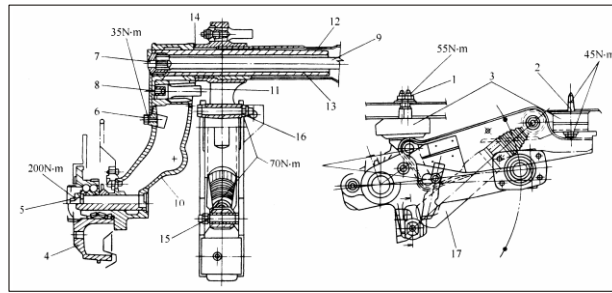

Figure 4-24 Rear Axle and Suspension
(7) As indicated in Figure 4-24, remove the fixing clip of handbrake brake cable, screw off the fixing bolts 15, 16 from the upper and lower part of damper, and then remove the damper 17.